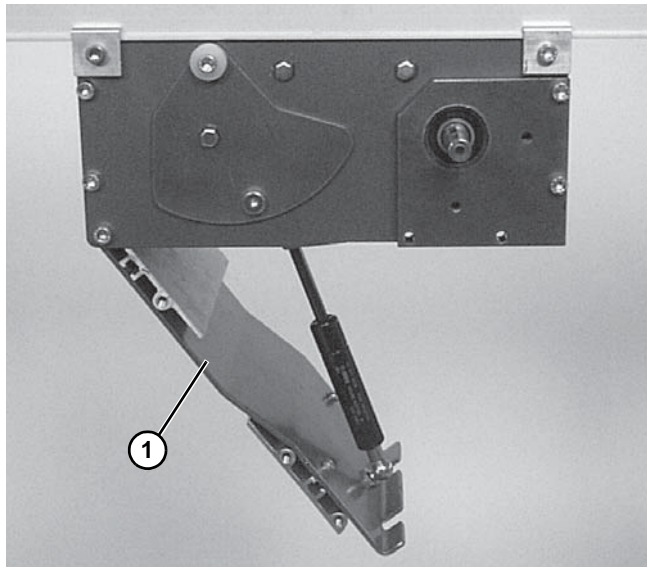

Figure 43
9. Carefully close the drive module tension door (**Figure 43, item 1**). See WARNING.